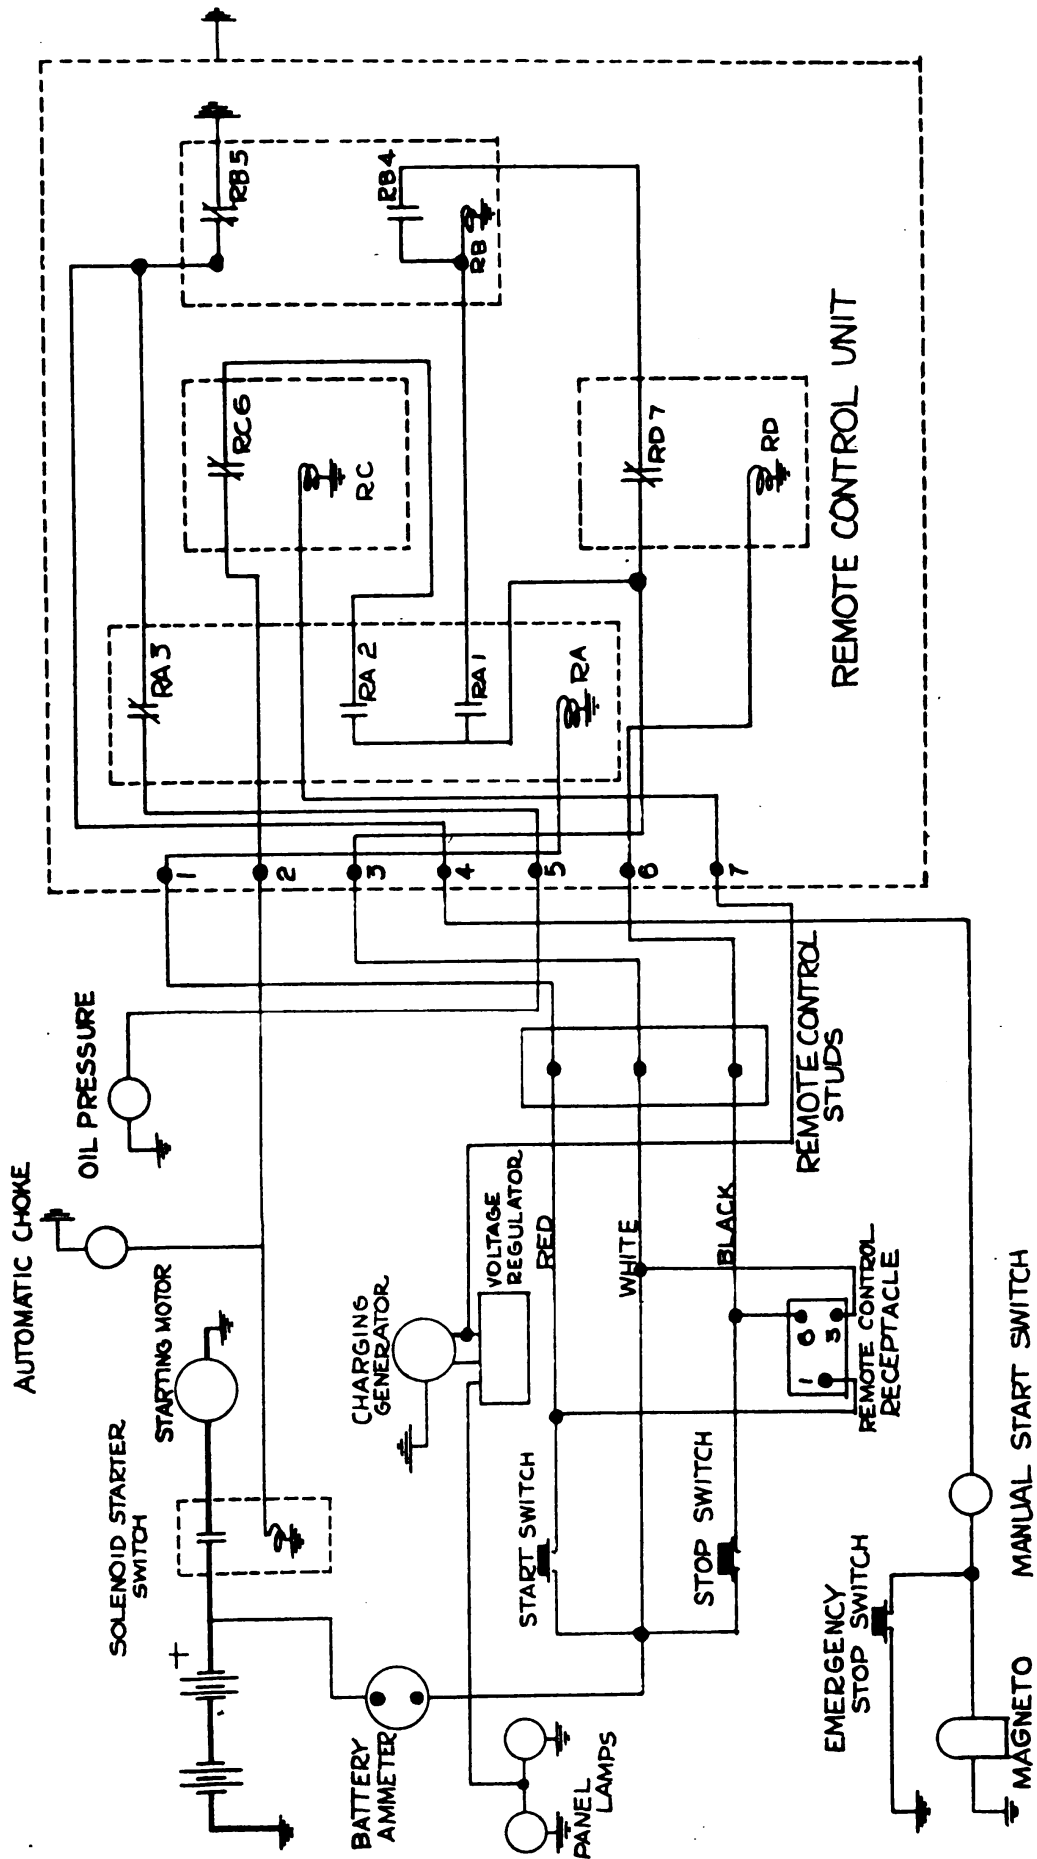

FIGURE 5—WIRING DIAGRAM POWER UNIT PE-99-E
10. Start and stop circuits (Figure 5)
a. *To start the engine.* (1) Pressure on the START switch operates relay RA, closing contacts RA1 and RA2 and opening RA3. RA1 operates relay RB, closing RB4 to lock in relay RB, opening RB5.